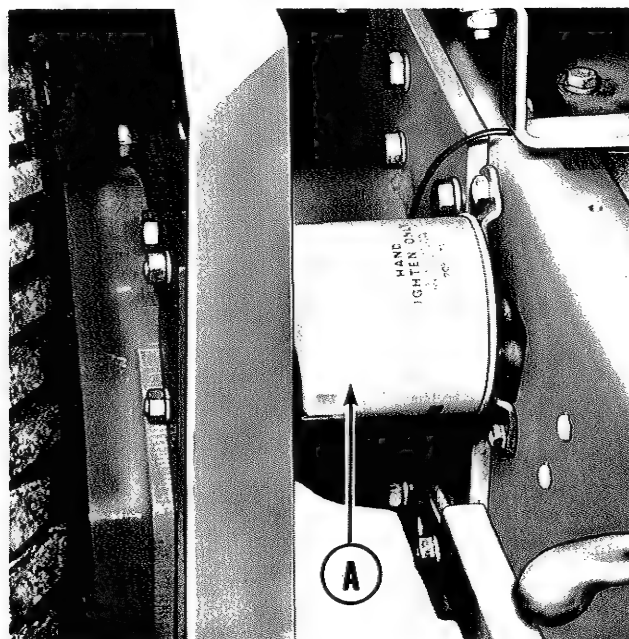

Figure 36. Transmission oil filter on right side of tractor frame.
1. See figure 36. Remove the oil filter (A) by turning it counter-clockwise.